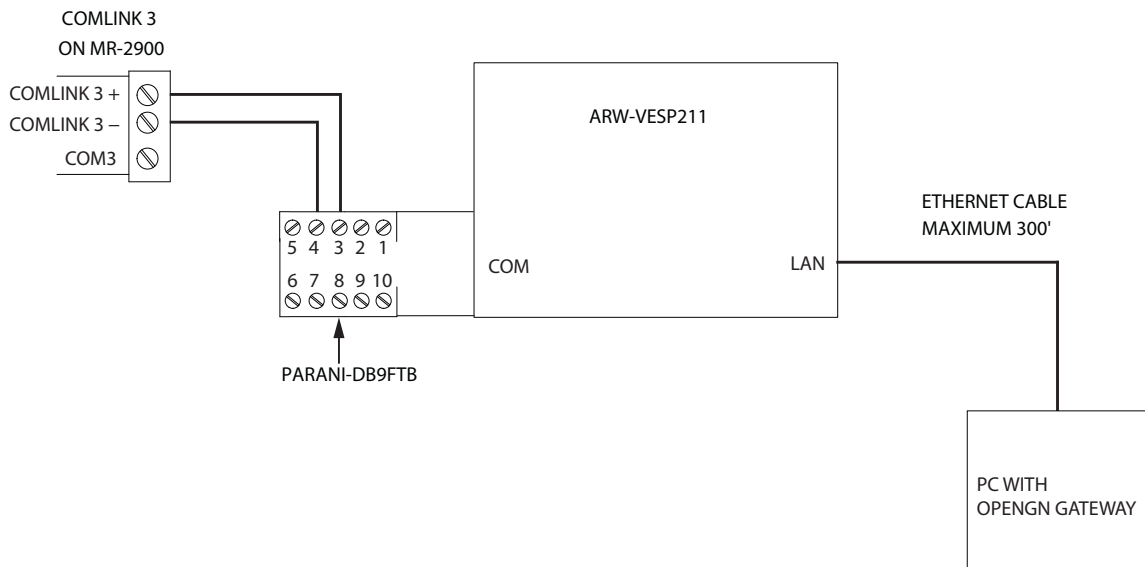

Figure 1 Connect the ARW-VESP211 to the OpenGN Gateway Computer Directly
2. Connect pins 3 and 4 from the PARANI-DB9FTB to the COMLINK 3 + port and COMLINK 3 – port on the MR-2200/2900 as shown in Figure 1.